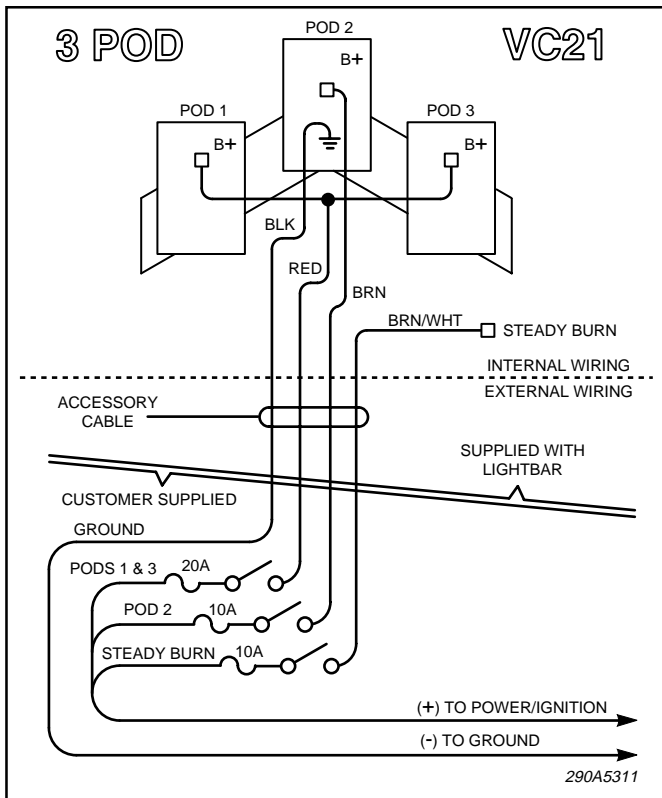

Figure 1.
B. For proper light operation, the light assembly control cables must be properly terminated inside the user-supplied control head. Using figure 1 as a guide, make the appropriate electrical connections. Ensure that the lines are adequately fused as shown in figure 1.
If control lines are combined for activation, calculate the total current requirement using the values shown in figure 1.